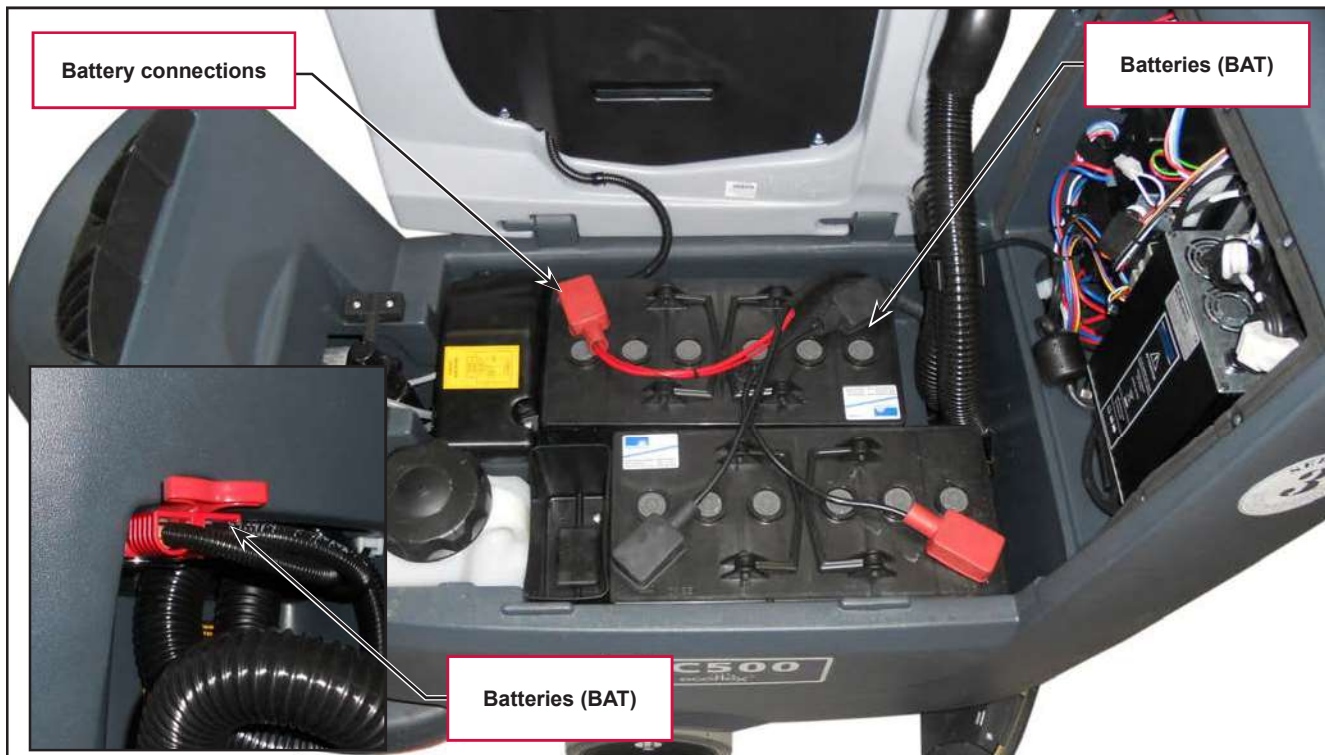

Figure 4:
1. Insert the “Supervisor” key (grey) in place of the “User” key (blue) to access the main screen (Figure 4) of the display.